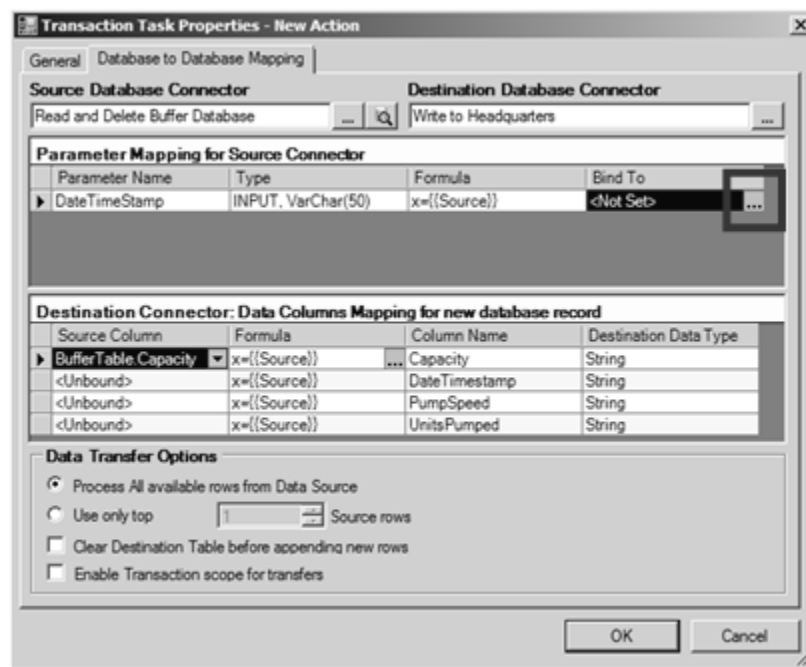

Figure L5.5 - Database to Database Mapping
3. Click on the ellipsis button **...** in the **Bind To** column of the **Parameter Mapping for Source Connector** section, as shown in Figure L5.5 to open the Data Source Browser.